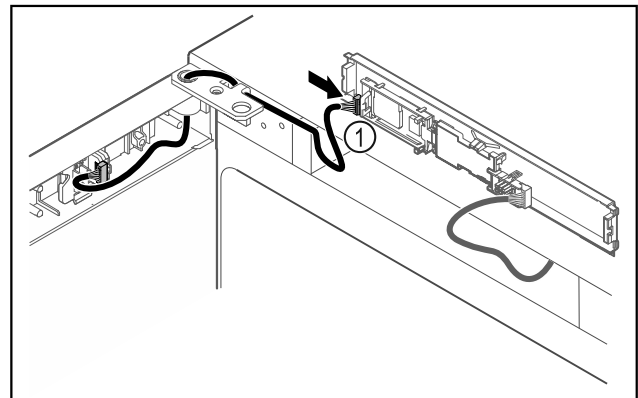

Fig. 45
- Connect the plug Fig. 45 (1) to the circuit board.